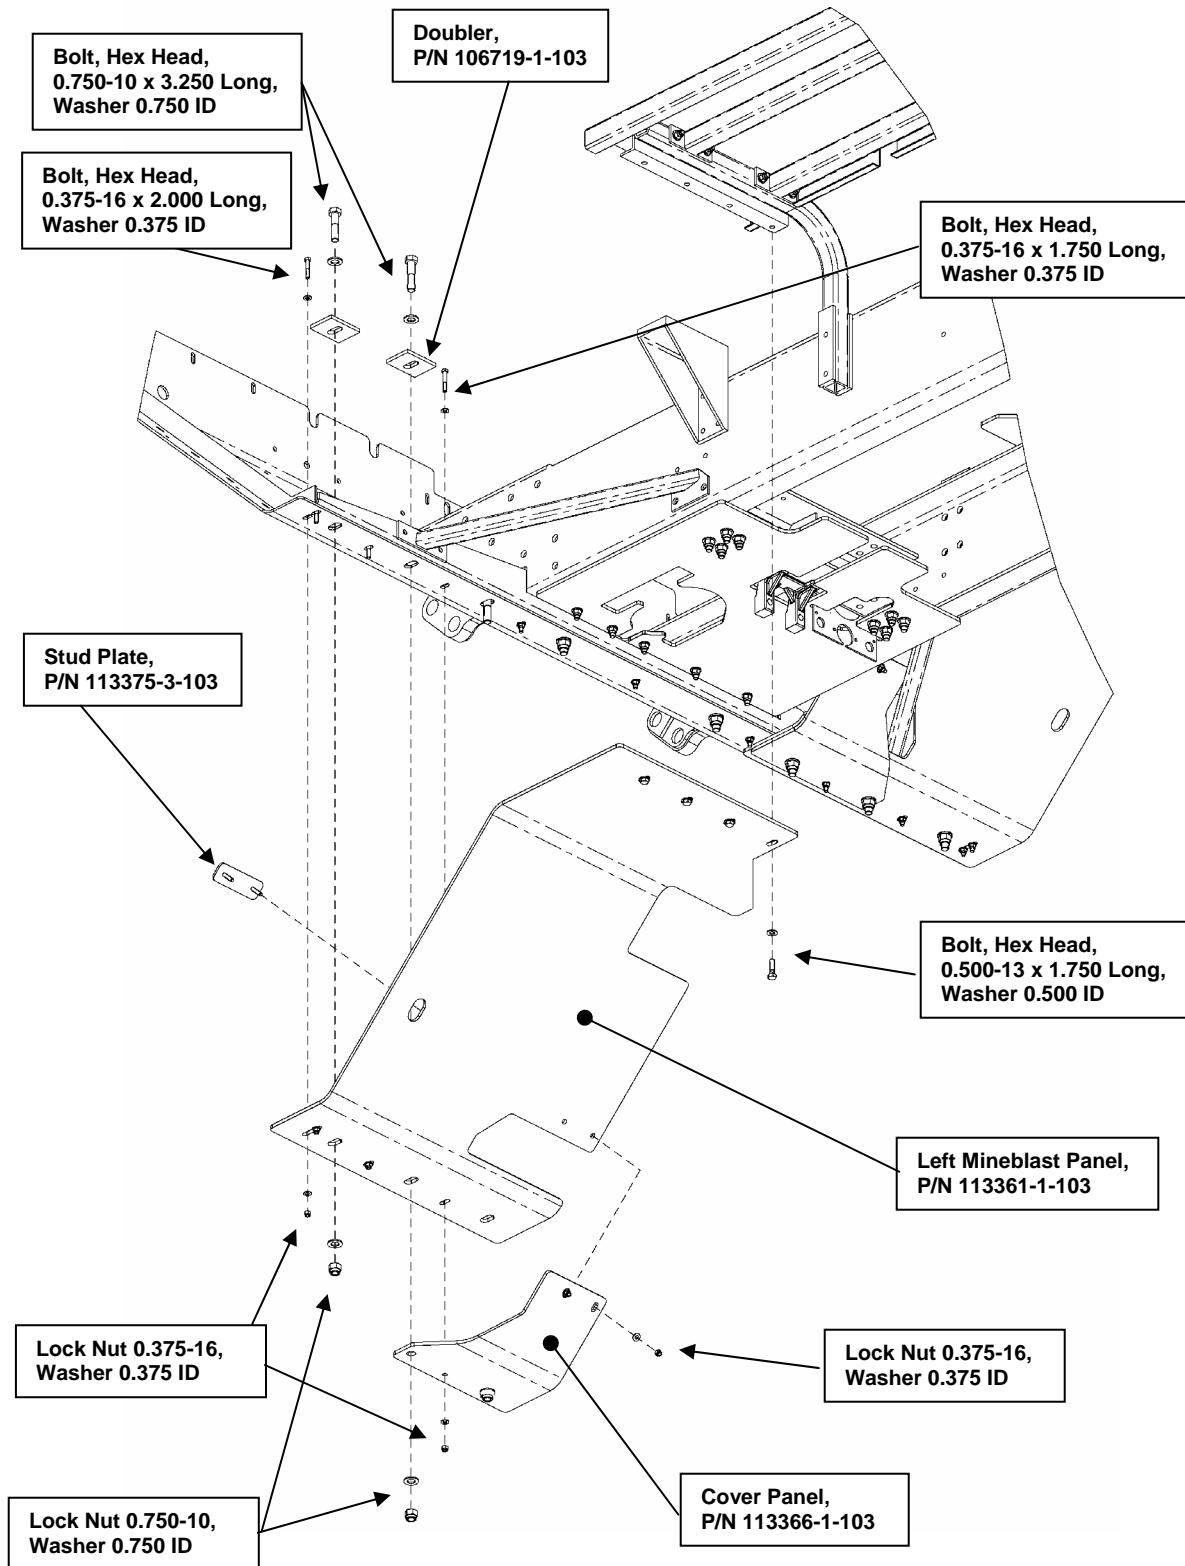

**Figure 63. Underbody Attachment Bracket, Right Side.**
- j) Remove the sheet metal in two locations from underneath the front wheel well as shown in Figure 63. This is needed to provide clearance for the Right Mineblast Bracket (P/N 113365-1-103).
- k) Install the Right Mineblast Bracket to the support rail using the hardware shown in Figure 63.